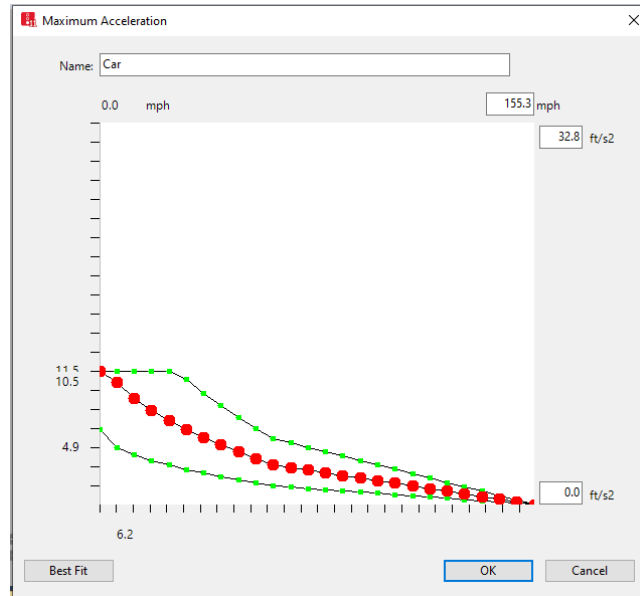

Figure 17: Car Maximum Acceleration, acceleration range and median vs vehicle speed
From this table we can read that, when accelerating from a stop (i.e., a speed of 0 mph, the value in the X column), a vehicle in the *category Car* will be assigned a *maximum acceleration* between 6.43 ft/s^2 ($yMin$) to 11.48 ft/s^2 ($yMax$), with a distribution median of 11.48 ft/s^2 (Y). Likewise, a vehicle traveling at 6.2 mph will be assigned a maximum acceleration between 4.9 ft/s^2 and 11.48 ft/s^2 , with a distribution median of 10.50 ft/sec^2 . To get a better sense of the data, double click on row 1 for *Car* in the left window. You should see the pop-up window in *Figure 17*. This is a graphical form of the table on the right side of the *Maximum Acceleration* window.